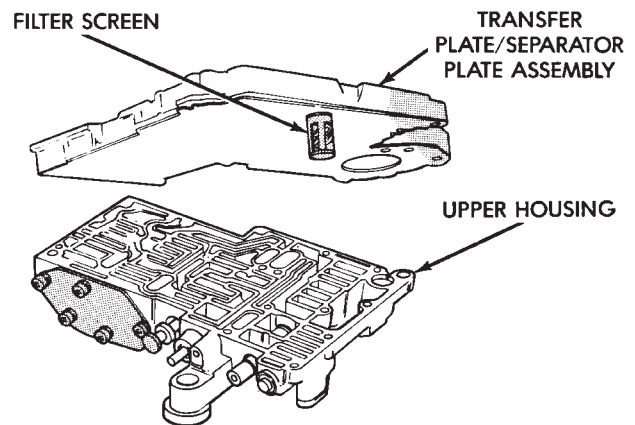

Fig. 101 Installing Transfer Plate On Upper Housing
(2) Position assembled transfer plate and upper housing separator plate on upper housing (Fig. 101).